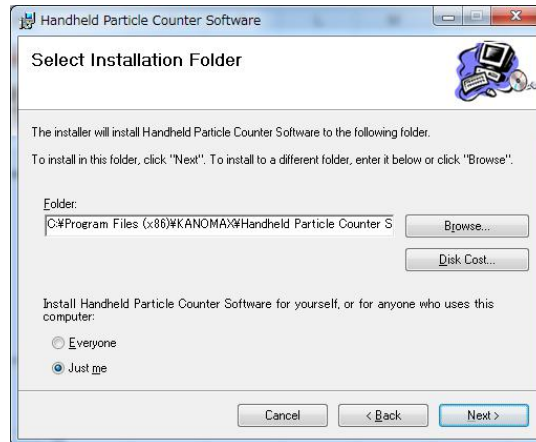

Figure 2-2
- 2) Click the Next button to display the dialog box as shown in Figure 2-2 below. To install to a different folder, enter it in the designated space or click "Browse":